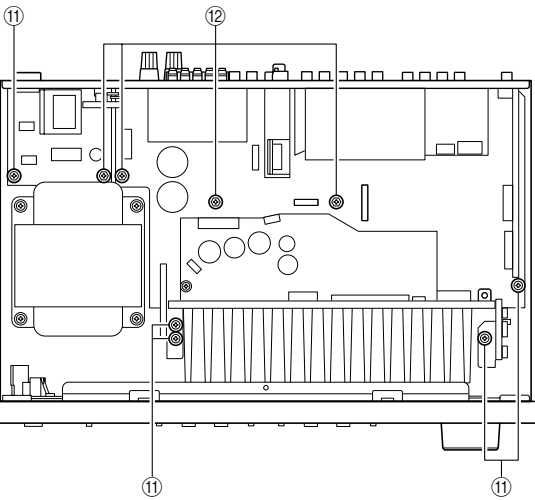

Fig. 4
- Remove 5 screws (⑪) and 4 screws (⑫). (Fig. 4)